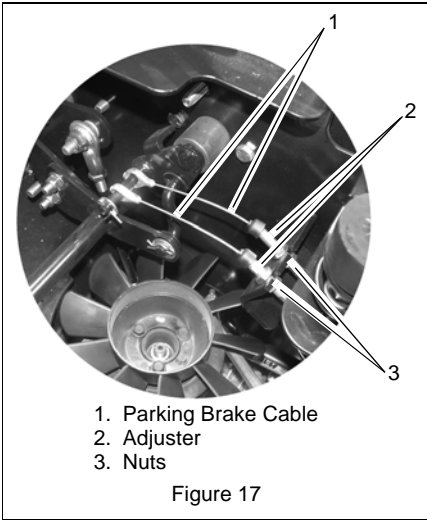

Figure 17
**NOTE:** Be sure to check the parking brake on both sides of the unit (Figure 17).